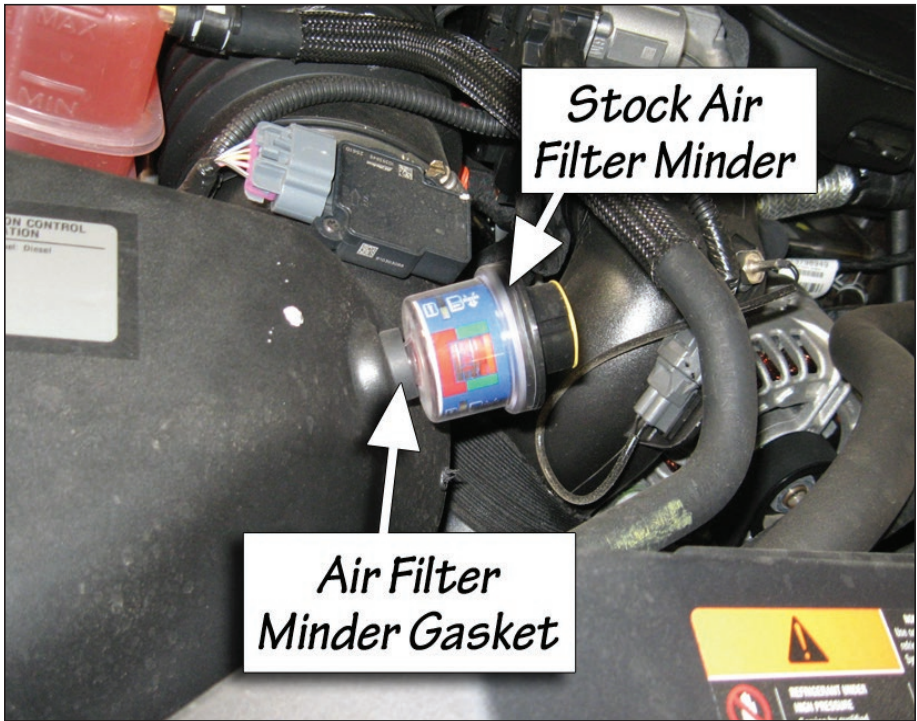

Figure 5- Remove Stock Air Filter Minder & Air Filter Minder Gasket
11. From the stock air box, remove the stock air filter Minder. Make sure to remove the stock air filter Minder's rubber grommet as well. See **Figure 5**.